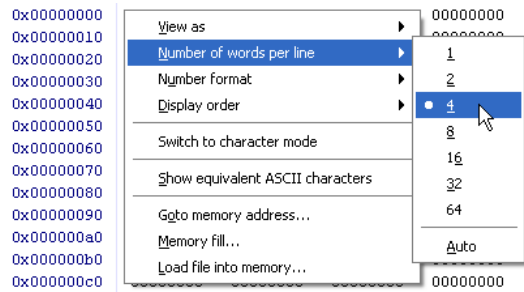

Figure 32. **Number of words per line** menu in the **Memory** window.
- Number of words per line: the number of words per line can be configured to make it easier to find memory addresses. This can be configured from the context menu accessible by right-clicking on the **Memory** window, as shown in Figure 32.